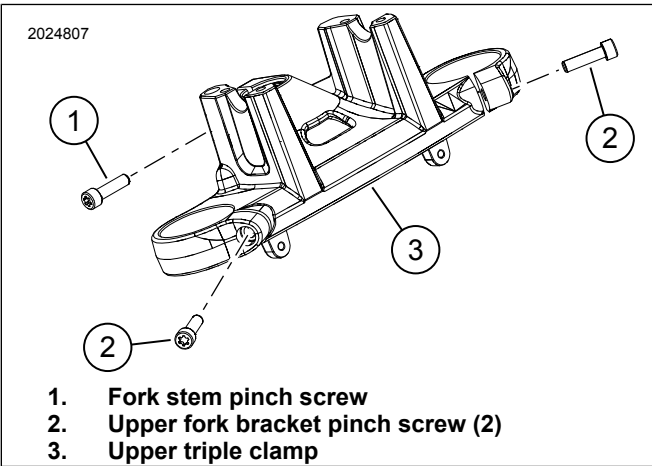

Figure 11. Recall Kit 0190
4. See Figure 11. Install **new** upper triple clamp (3) from recall kit. See service manual.